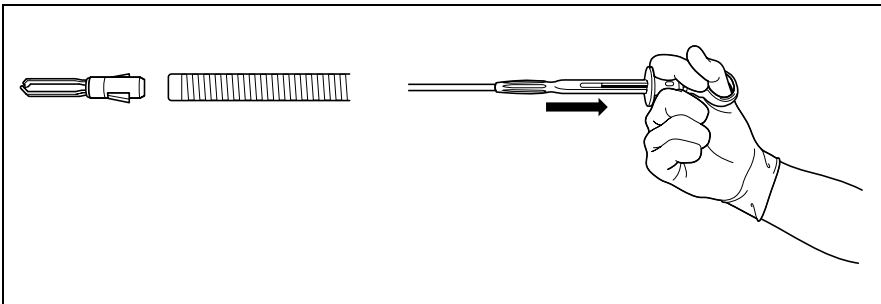

Figure 3.14
6. Gently pull the slider up to the thumb ring (yellow) gently to detach the closed clip from the coil sheath (see Figure 3.14).